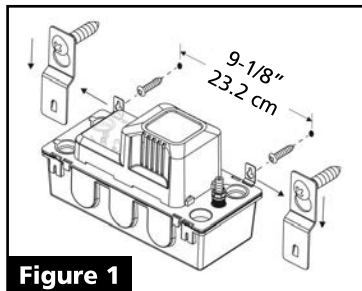

Figure 1
2. **Wall Mount.** Insert the included mounting tabs into the slots on the pump tank until they lock in place. See Figure 1. The tabs can be attached to either side of the pump for easy installation. The space between the mounting tabs is 9-1/8".